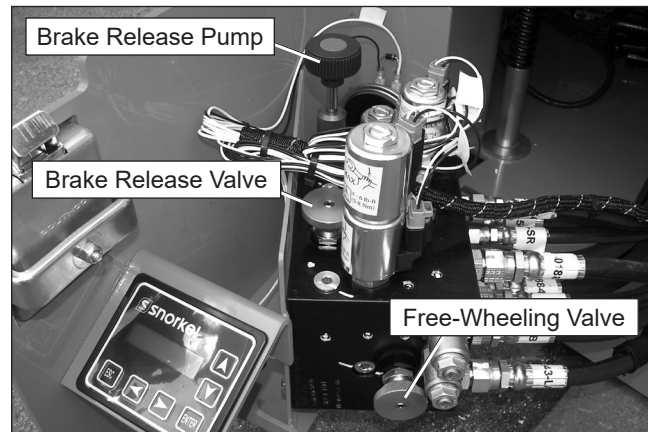

Figure 10.4 – Hydraulic Tray
1. Unlatch and swing out the control valve tray on the right side of the machine. The brake release valve and brake release pump are located on the top of the hydraulic manifold. The free-wheeling valve is on the side of the valve (refer to Figure 10.4).